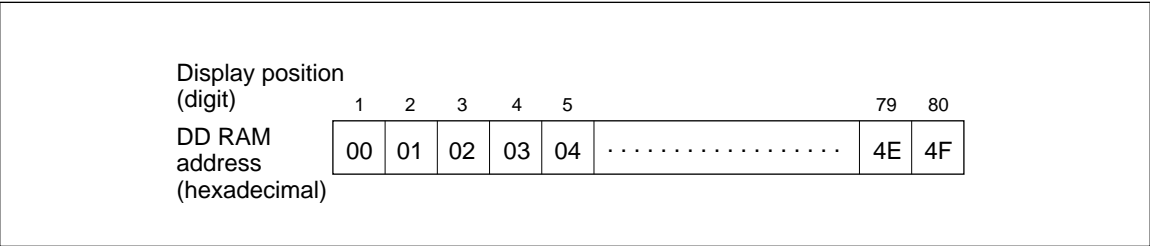

Figure 2 1-Line Display
- 1-line display ($N = 0$) (figure 2)